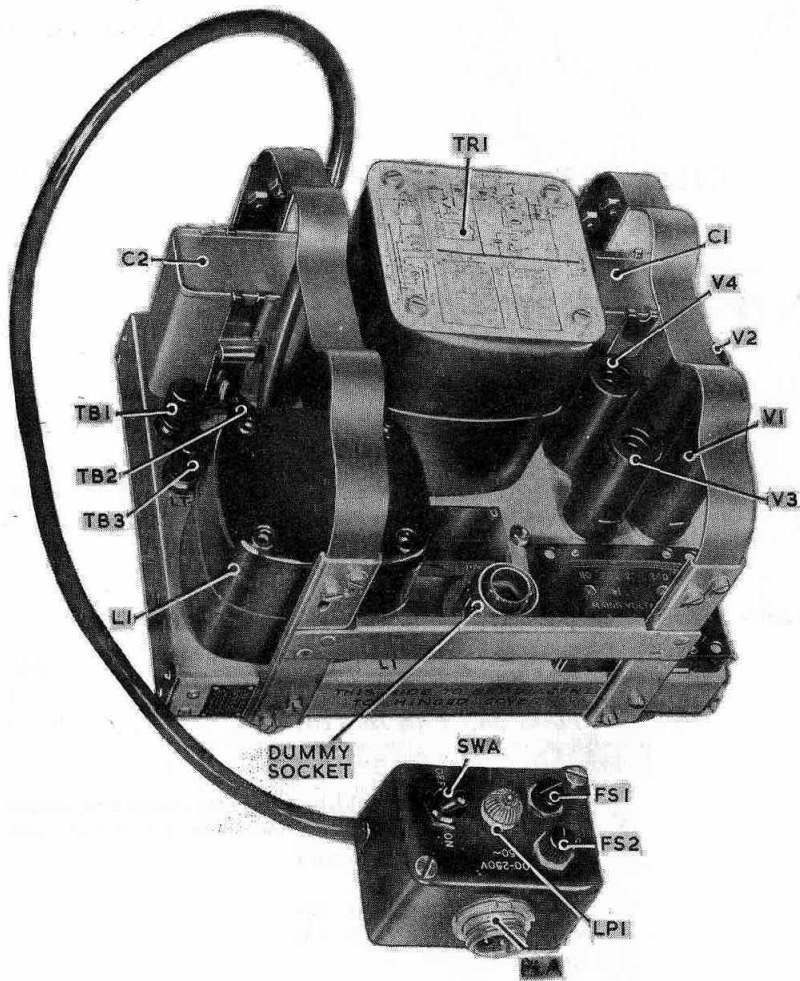
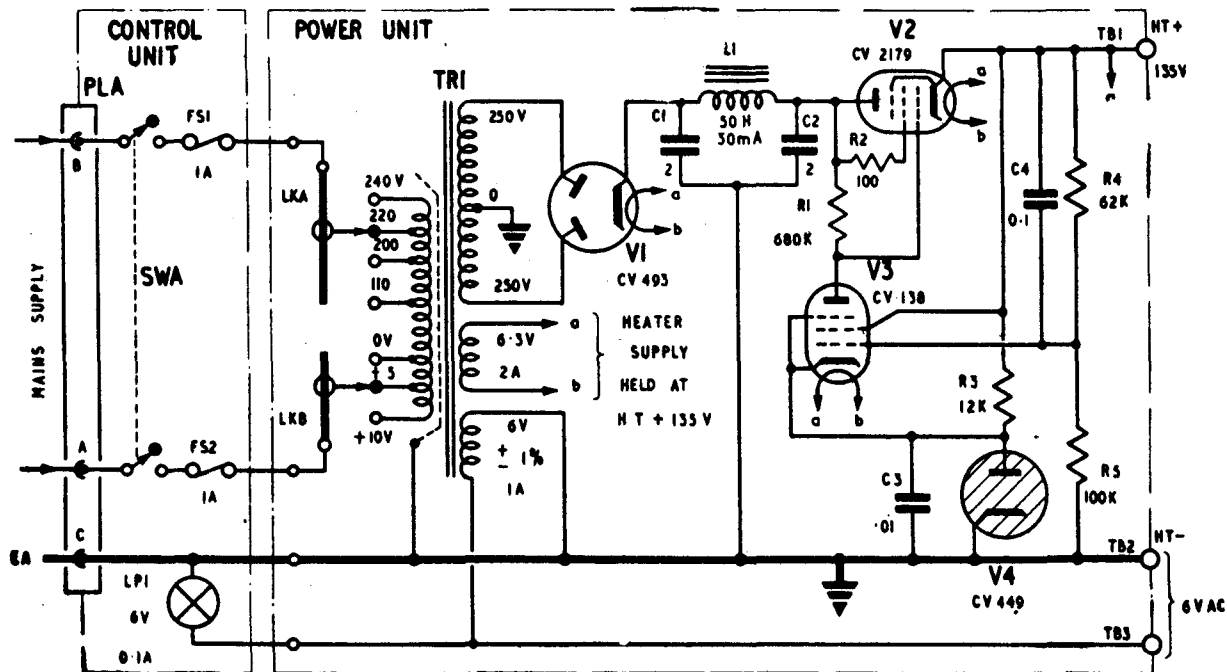

Fig. 2. Component locations, top of chassis
Fig. 4. Power unit Type 7262, circuit
6. If the frequency meter is constantly in use at the one location it may be thought desirable to secure the control box in some convenient position. This can be done by undoing the two cheese-head screws visible on top of the control box in fig. 2, detaching the upper portion of the control box from the base plate, securing the base plate in the desired position by two screws passed through the two plain holes in the plate, and then re-installing the upper portion of the box. Note that the battery compartment lid cannot be closed unless the control box is in the stowed position; this lid must never be closed when the unit is switched on or the equipment will be overheated.
7. Fig. 2 and 3 show respectively the top and bottom of the chassis, and indicate the locations of all the power unit components, the reference numbers used corresponding to those used on the circuit diagram, fig. 4. All components are easily accessible when the unit is removed from the frequency meter.
10. Referring to the circuit diagram, fig. 4, it will be seen that the gas-filled tube V4 is connected in series with its load resistor between the cathode of V2 and earth, that is, across the output of the power unit. A steady voltage of 84V appears at the anode of V4, and it is this voltage which is used to determine the cathode potential of the control valve and which serves as fixed reference voltage for the entire stabilizing circuit. A capacitor C3 (0.01 microfarad) bypasses any a.c. component which might